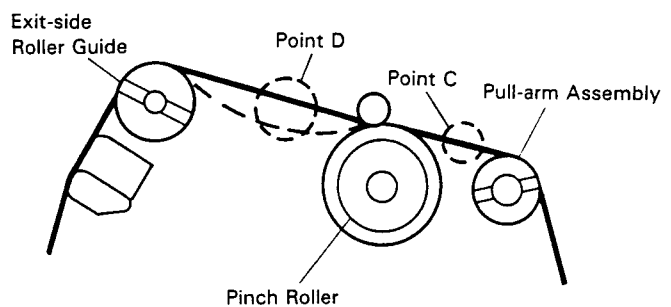

Fig. 3-6
6. After confirming that the tape is not twisted at Point C in Fig. 3-6, check the tape for twisting or bulging at Point D. (Normal bulge : no more than 0.5mm)